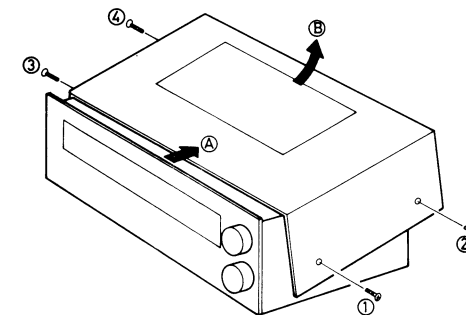

Fig. 7
- Remove the four cabinet mounting screws (nos 1~4 screws in fig. 7).
- Sliding it toward A direction and lifting it upward B direction as shown in fig. 7.